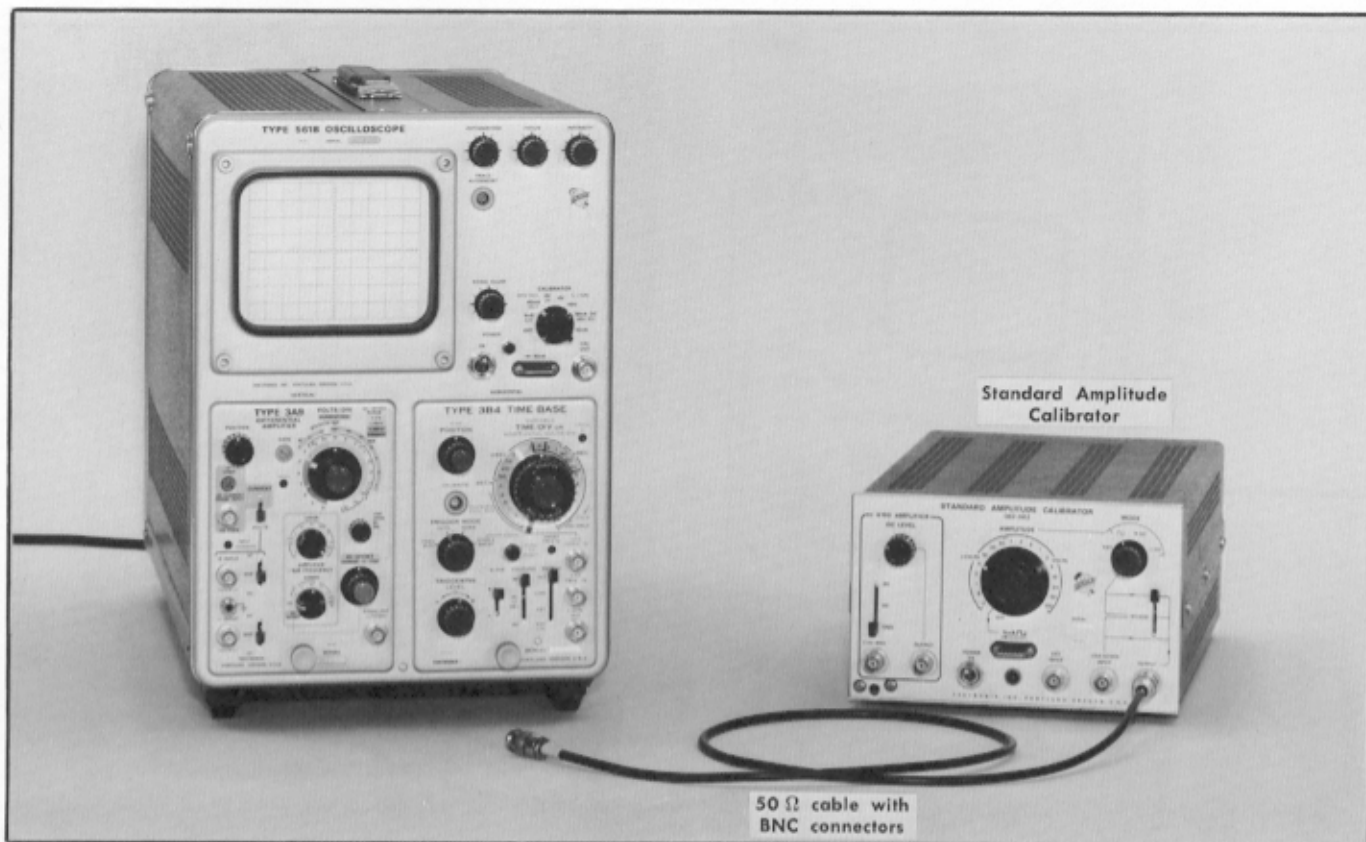

Fig. 5-11. Equipment required for steps 12 and 13.
- a. Test equipment is shown in Fig. 5-11.